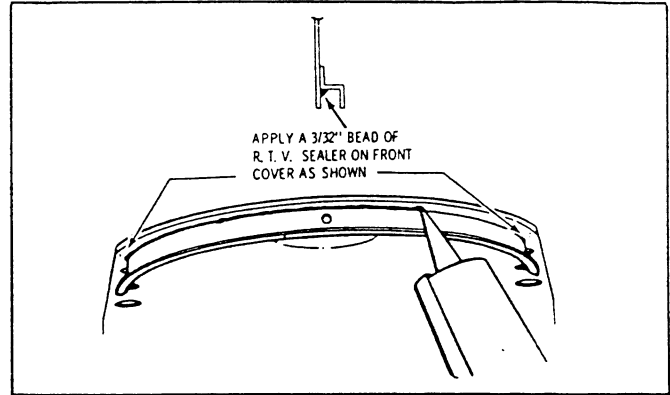

Fig. 42 Applying Sealer to Front Cover
4. Apply 1052915, 22521437, G.E. 1673 R.T.V. sealer or equivalent on the front cover oil pan seal retainer (Fig. 42).